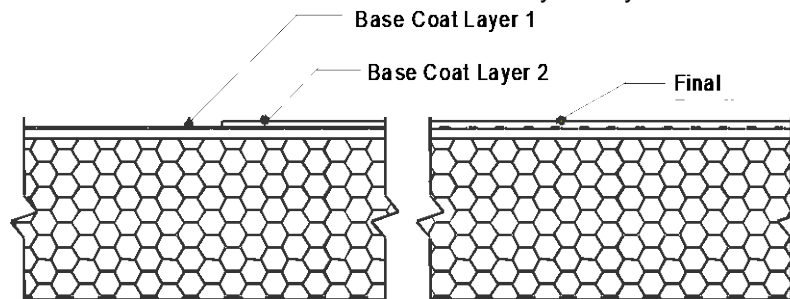

Figure 9
- 9.5.1.2.3. Allow the base coat mixture to take up until firm to the touch. Trowel a second tight coat of the base coat mixture over the first coat to fully cover the reinforcing mesh (see Figure 9). The result should be such that the reinforcing mesh is approximately centered within the base coat thickness. Do not allow the first pass to completely dry prior to the second pass application or an excessive amount of base coat mixture will be necessary to fully coat the wall surface.